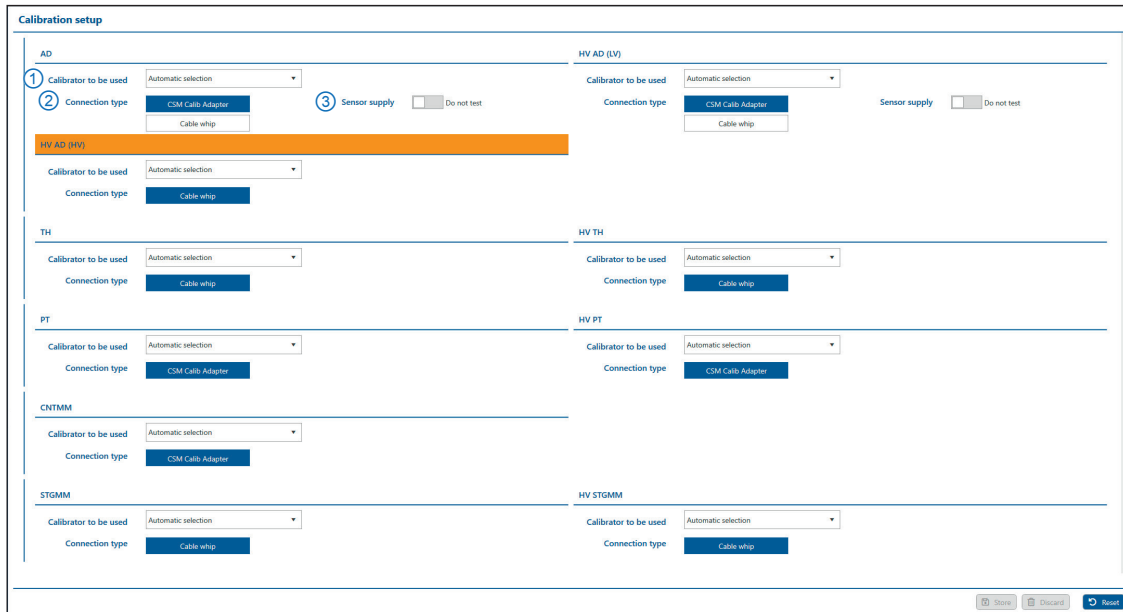

Fig. 3-21: **Calibration setup** menu
If more than one calibrator is available, the required calibrator can be selected directly from the **Calibrator to be used** drop-down menu (Fig. 3-21, ①). Alternatively, the option "Automatic selection" can be specified.
Depending on the type of module, that has to be calibrated, the **Connection type** (Fig. 3-21, ②) menu provides the following options:
- ▶ AD/HV AD (LV): CSM Calib Adapter AD/CNT or cable whip
- ▶ HV AD (HV): cable whip
The module type "AD/HV AD (LV)" provides the option to test the sensor power supply of the device under test after calibration. To do so, the option **Sensor supply** (Fig. 3-21, ③) has to be enabled.